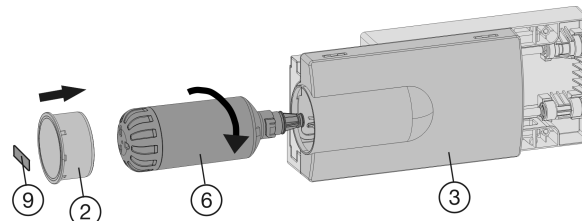

Fig. 40
- ▶ Place the tray cover *Fig. 40 (3)* in position.
- ▶ Insert the water filter *Fig. 40 (6)* and turn it approximately 100° to the right until it locks into position.
- ▶ Place the cover *Fig. 40 (2)* on the filter.
- ▶ Write the date of the next filter replacement on the supplied adhesive label *Fig. 40 (9)* and affix it to the module.